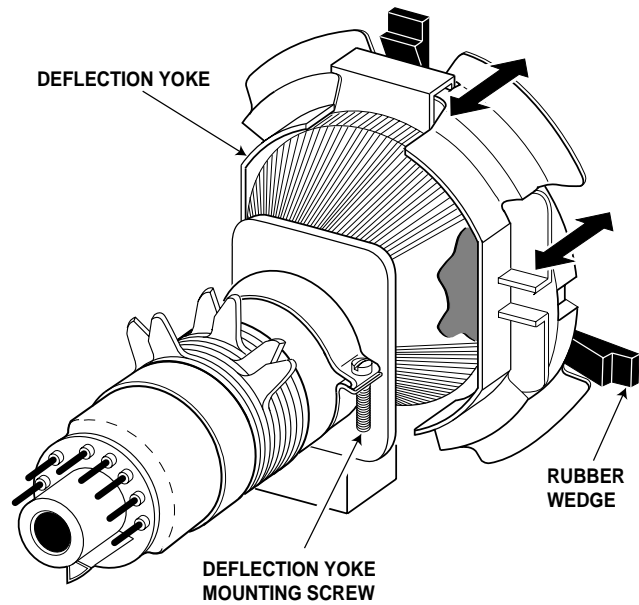

Figure 1. Deflection Yoke Movement
1. When replacing picture tube or deflection yoke, mount deflection yoke and purity-convergence magnets assembly properly. See Figure 1. Position the picture tube facing east or west. Demagnetize the picture tube and receiver using an external degaussing coil. Set receiver to Service Menu NO. 48 (no vertical sweep) while degaussing.